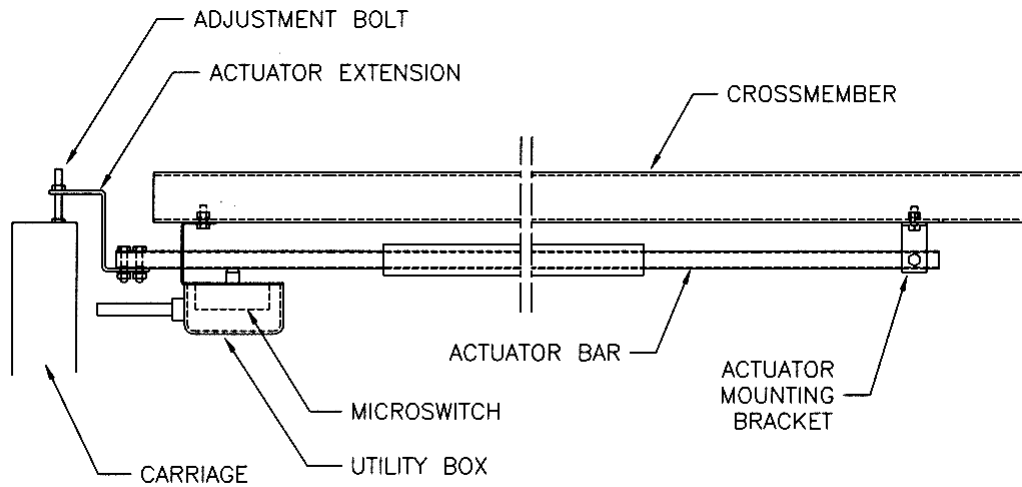
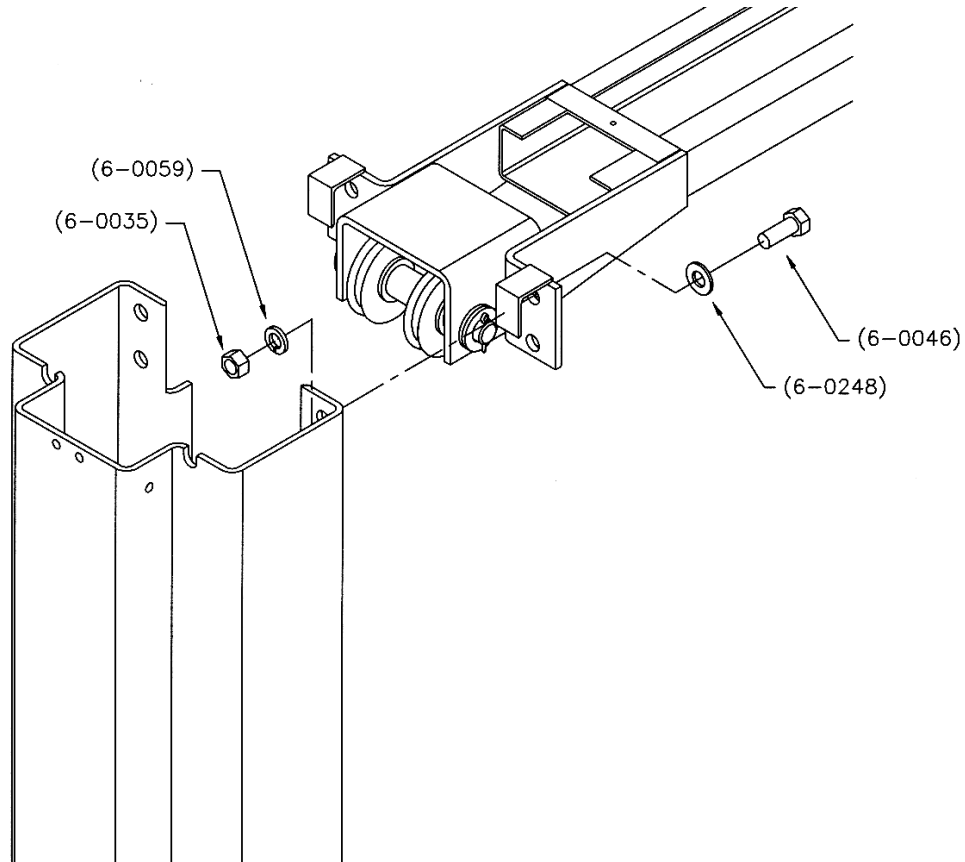

Figure 4 – Safety Shut-Off Bar Installation
Figure 5 – Crossmember Assembly
Note: The safety shut off will disconnect the power to the power pack when an obstruction touches the padded bar or the carriages reach their maximum height. The safety shut off switch is factory pre-wired. Refer to Figure 4.
Note: This procedure must be done last. Refer to Figure 4.
2. Using a stepladder, install the crossmember using eight (8) ½”-16UNC x 1 ¼” lg. hex head bolts, eight (8) ½” ID lock washers, eight (8) ½” hex nuts and eight (8) ½” flat washers. See **Figure 5**.
- Using a 4ft. level on top of the crossmember, determine which column is higher. Refer to **Figure 4**.
- Using a 2ft. level on the sides of the high column, ensure that the column is level in the vertical position (**Figure 5**). Use shims under the column baseplate to hold the column level. Ensure that the base plate is completely supported by shims where it does not contact the floor (**Figure 6**).
5. Reconfirm that the column is level front to rear and side to side (**Figure 5**). Add or remove shims as required.
1. Using a 4ft. level on top of the crossmember (**Figure 4**) and a 2ft. level on the low side column (**Figure 5**), shim underneath the baseplate until the crossmember and column are level. Ensure that the baseplate is completely supported by shims where it does not contact the floor (**Figure 6**).
4. Reconfirm that the column is level front to rear and side to side (**Figure 5**). Add or remove shims as required.